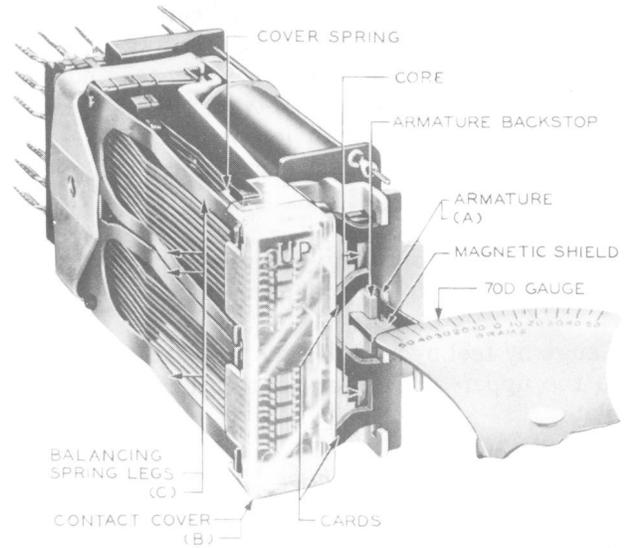
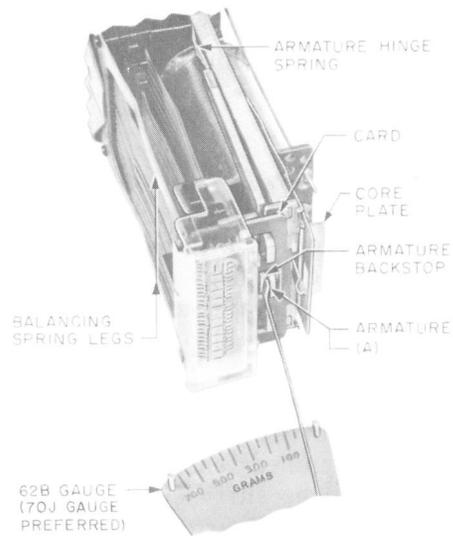
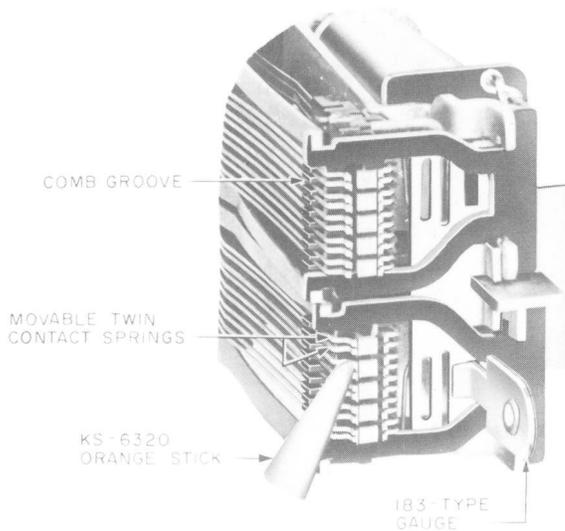

Fig. 2—AM Type Relay-Gauging Armature Back Tension
Fig. 4—Method of Checking Armature Back Tension for AL Type Relay
Fig. 8—Method of Checking Open or Closed Contacts of AM-Type Relay
1.002 This addendum is issued to revise 2.07, revise Fig. 4, and to correct Fig. titles for Fig. 2 and Fig. 8. The attached pages must be inserted in the section in accordance with the filing instructions above.
- (b) Fig. 2—title corrected
- (c) Fig. 4—revised
- (d) Fig. 8—title corrected
2.06 Balancing Spring Tension: Fig. 2(C) and 3(B)—With the relay in the unoperated position, the combined tension of the balancing spring legs shall be sufficient to hold the card against the associated surfaces on the armature and the armature against its backstop. (See requirement 2.07.)
2.07 Armature Back Tension: Fig. 2(A) and 4(A)—The armature shall bear against its backstop with a pressure of:
Use the 62B or 70J gauge as follows. On AL-type relays, apply the gauge to the tip of the armature as shown in Fig. 4(A). On AM-type relays, apply the gauge to the armature in front of the armature backstop as shown in Fig. 2(A), making sure that the gauge clears the backstop and magnetic shield.